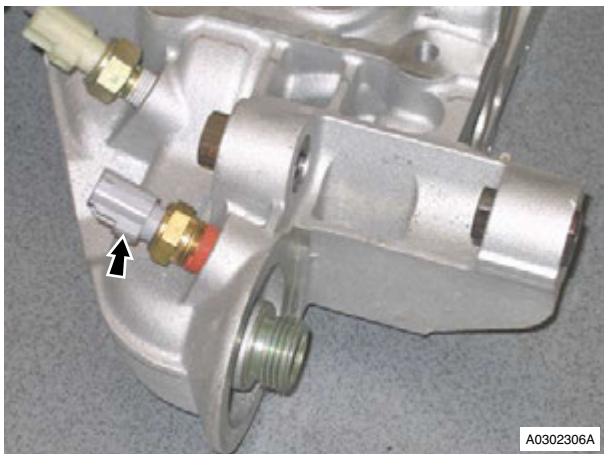

Figure 3
4. Remove engine electric coolant temperature sensor (refer to Figure 3).